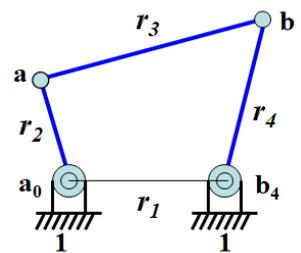

Fig.1. Four-bar linkage
1. Fig. 1 show a four-bar linkage, which is a crank-rocker mechanism. If  $r_2=100\text{cm}$ ,  $r_3=150\text{cm}$ ,  $r_4=200\text{cm}$ , please find the length range of  $r_1$ . (15%)